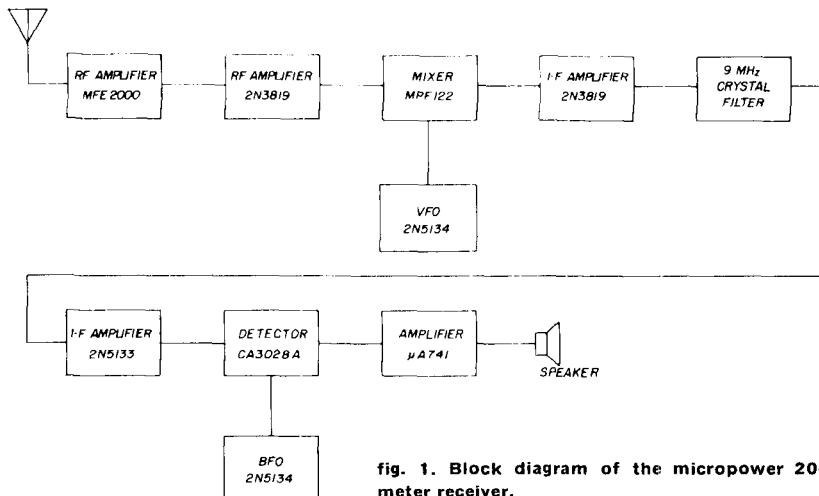

fig. 1. Block diagram of the micropower 20-meter receiver.
**fig. 1. Circuit diagram for the regulated low-voltage power supply. Transformer T1 is a Triad F47U (3 amps) or Triad F48U (6 amps). For current capacity greater than 3 amps, transistor Q1 should be paralleled with another MJ1000 for each additional 3 amps of output current.**
A block diagram of the complete low-power receiver is shown in fig. 1. A signal at the antenna is amplified by two fet rf stages and fed to a mosfet mixer. The MPF122 mosfet is a low-cost plastic device and features diode protected gates. The 9-MHz output of the mixer is amplified by another fet which also acts as an impedance matcher, transforming the high-impedance output of the mixer to the lower input impedance of the crystal filter.